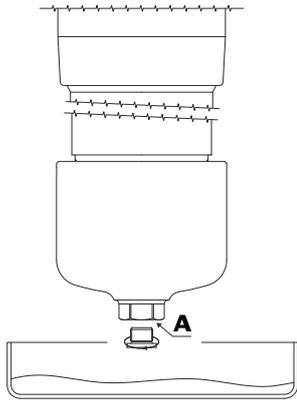

Fig. 1
- 2 Unscrew the oil drain plug and collect the fluid in a suitable container. When the filter has fully drained check the condition of the seals and if OK re-assemble the plug, tightening it fully down (see fig. 1).